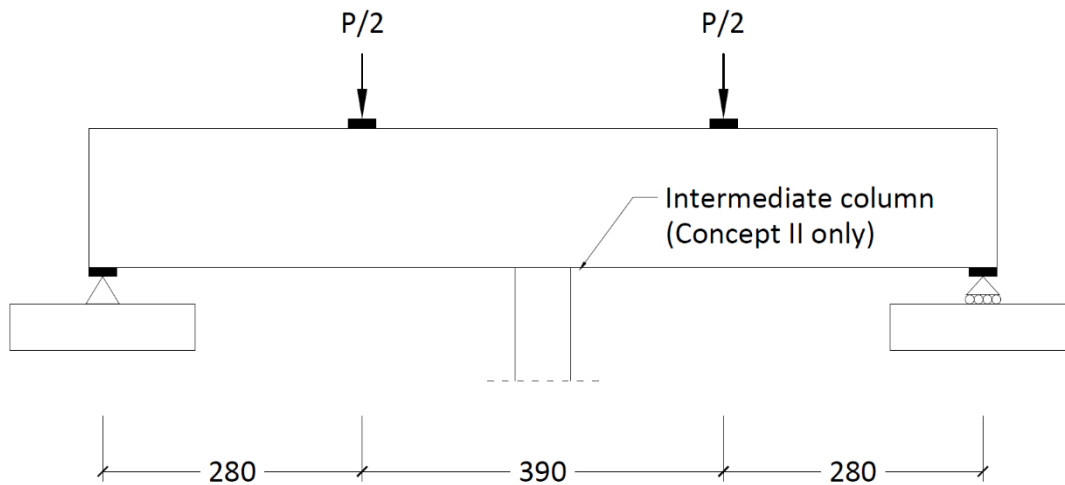

Figure 3: Concentrated Load Schematic (all dimensions in mm). Each plate is 30 mm x 100 mm.
9. Calculations must be submitted which demonstrate each bridge's performance under the load case shown in Fig. 3 in the Appendix. Calculate the load causing failure,  $P$ , for each design concept. Consider all possible failure mechanisms including all forms of plate buckling.